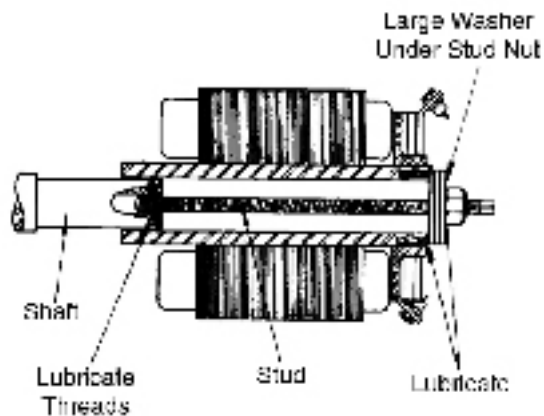

Figure 5: Installing the exciter armature and rotating rectifier assembly
- Install a cap or plug to protect the shaft center. Using the tapped holes in the end of sleeve, bolt on a metal plate. Refer to Figure 5 for fixture setup.